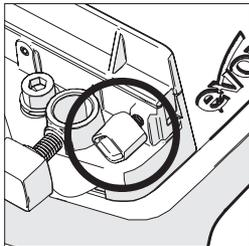

Fig. 5
- Loosen the thumbscrew (Fig. 5).